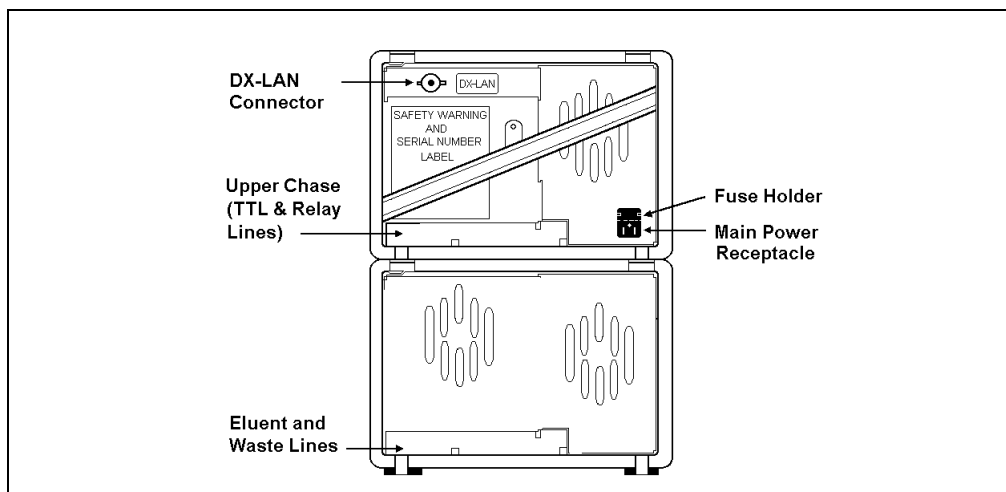
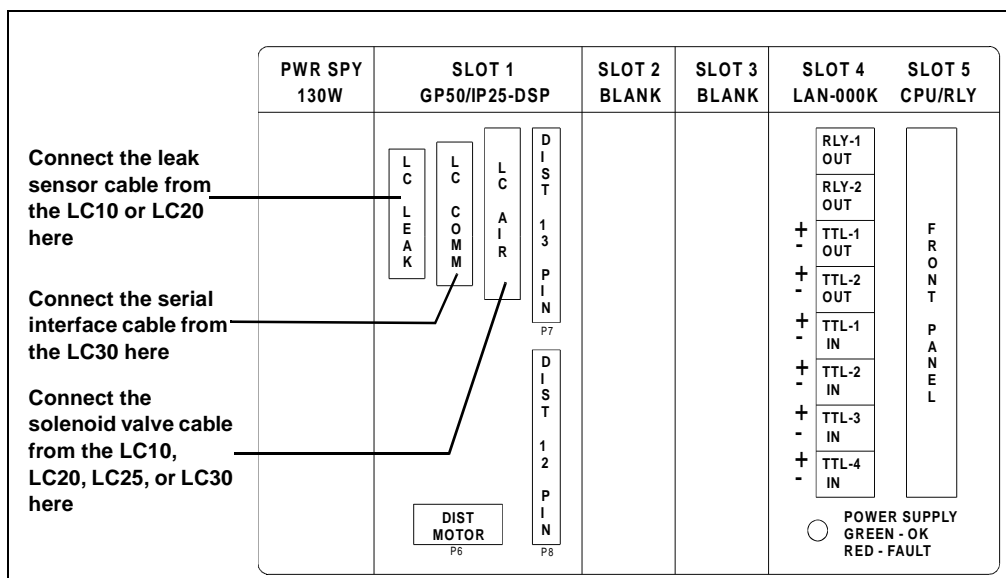

Figure B-1. GP50 Rear Panel
Figure B-2. GP50 Electronics Chassis
To implement: Connect a modular power cord (IEC 320 C13) from the GP50 main power receptacle (see Figure B-1) to a grounded, single-phase power source. Use the GP50 power switch to turn the pump power on and off.
1. Route the leak sensor cable from the rear of the LC10 Chromatography Organizer or the LC20 Chromatography Enclosure through the GP50 upper phase (see Figure B-1). Connect the cable to the **LC LEAK** connector in slot 1 of the pump electronics chassis (see Figure B-2).
2. Route the solenoid valve cable from the rear of the LC10 or LC20 through the GP50 upper phase. Connect the cable to the **LC AIR** connector in slot 1 of the pump electronics chassis (see Figure B-2).
Route the electronics injection valve cable from the rear of the LC25 Chromatography Oven through the GP50 upper chase (see Figure B-1). Connect the cable to the **LC AIR** connector in slot 1 of the pump electronics chassis (see Figure B-2).
1. Route the RJ-11 serial cable from the rear of the LC30 Chromatography Oven through the GP50 upper chase (see Figure B-1). Connect the cable to the **LC COMM** connector in slot 1 of the pump electronics chassis (see Figure B-2).
2. Route the solenoid valve cable from the rear of the LC30 through the GP50 upper chase. Connect the cable to the **LC AIR** connector in slot 1 (see Figure B-2).
1. To replace an existing pump interface card, remove the DX-LAN cable from the 10BASE-T DX-LAN connector on the GP50 rear panel (see Figure B-1).
2. Remove any TTL/Relay plugs from the connectors at slot 4 of the electronics chassis (see Figure B-2).
3. Connect the other end of the cable to the 10BASE-T DX-LAN connector on the GP50 rear panel (see Figure B-1).
1. To replace an existing pump interface card, remove the hex nut securing the BNC DX-LAN connector to the GP50 rear panel (see Figure B-1).
- a. Note the two small locking pins on either side of the BNC DX-LAN connector on the rear panel (see Figure B-1).